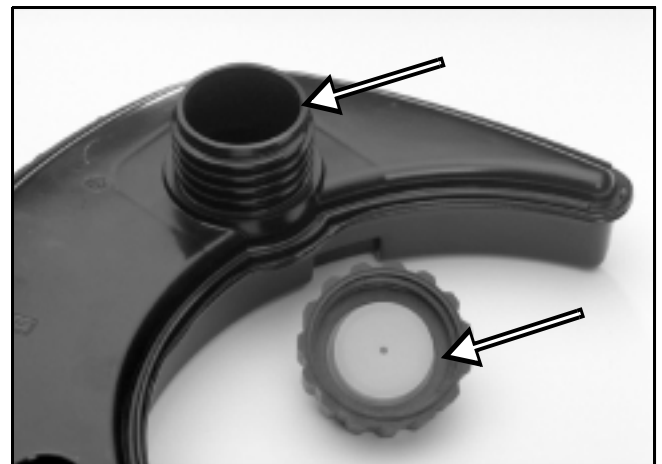

Figure 45
4. Should you encounter a situation where fuel leaks around the threads of the fuel cap (not out the vent), inspect the top of the neck of the fuel tank and the area in the cap where the fuel tank neck contacts the cap. This is the sealing area, not the threads. (See Figure 45.)